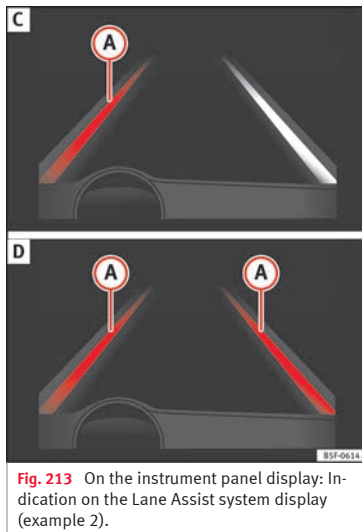

Fig. 213 On the instrument panel display: Indication on the Lane Assist system display (example 2).
- The system is operational, the highlighted line **A** indicates that there was a risk of involuntarily crossing the lane line and that the steering is being adjusted to correct the angle »» Fig. 213 C.
- The two lines **A** light up simultaneously when both lane lines are recognised and the Lane Assist function is active »» Fig. 213 D.